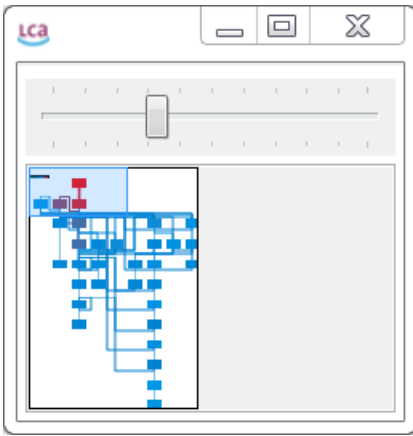

Figure 71: Sankey diagram viewer
- diagram viewer that provides an overview of the diagram with zoom options (Figure 71). The blue box in the viewer shows the view displayed in the Analysis editor.